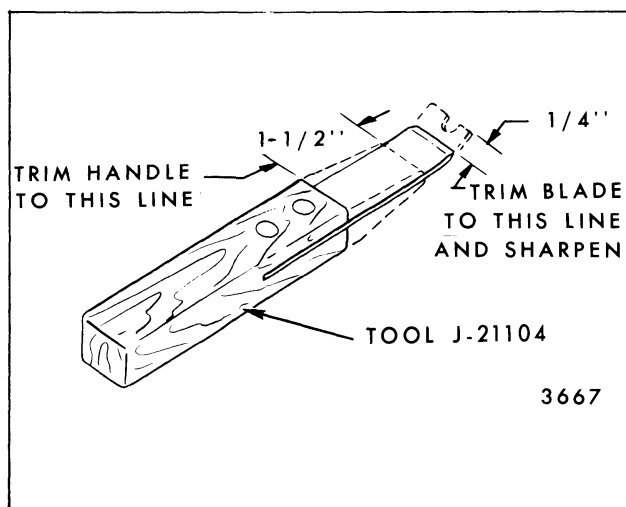

Fig. 5-26-Weatherstrip Removal Tool
3. Using a flat-bladed tool such as a putty knife, or side roof rail weatherstrip removal tool as described in Fig. 5-26, carefully break sealer bond between water deflector and door inner panel down both sides of deflector. Make certain tool blade is between inner panel and string that is embedded in sealer.
2. Beginning at the front body hinge pillar, carefully pull weatherstrip out of retainer while breaking sealer bond between weatherstrip and retainer with a flat-bladed tool. A tool for this use can be fabricated from tool J-21104 or equivalent by trimming 1/4" from the blade and 1-1/2" from the handle, then filing a sharp edge on the blade. Figure 5-26 illustrates fabrication of this tool.